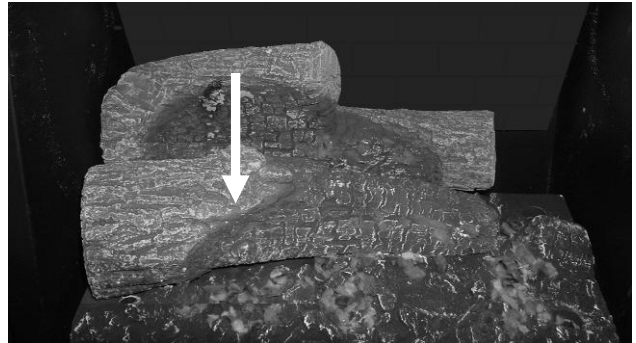

Figure 34 – Log 2 Position
3. Place Log 2 into the channel in the burner in front of log 1 as shown in Figure 34..